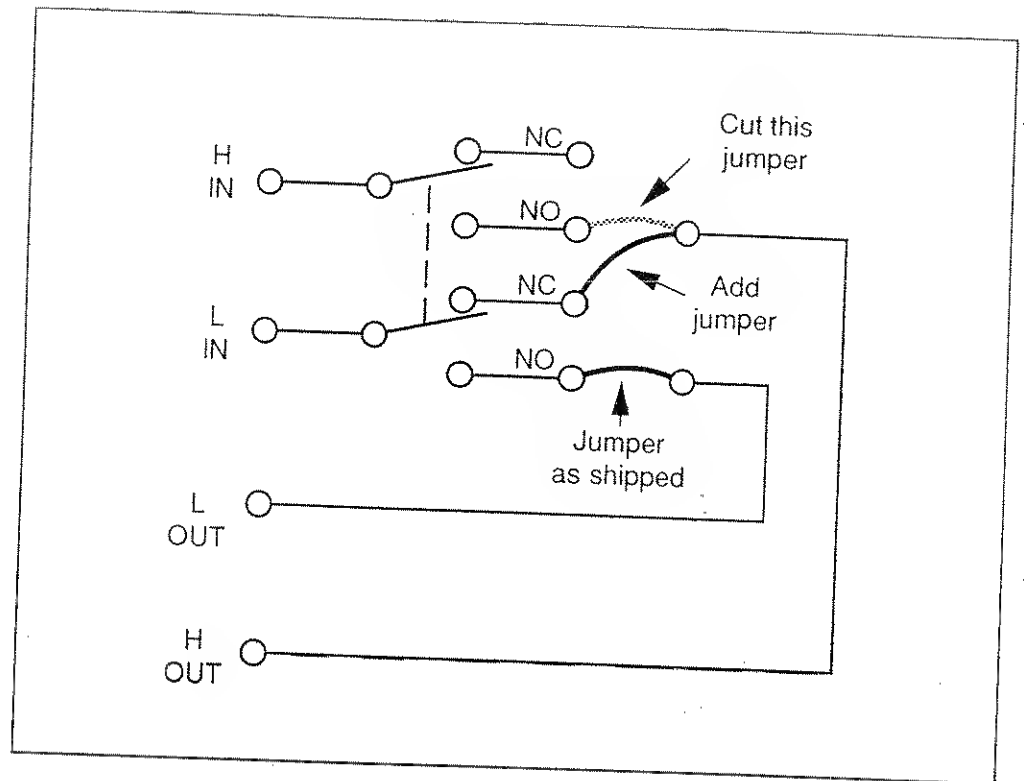

Figure 2-5. SPDT Configuration
**SPDT Configuration**—In this configuration, the relay switches a single-pole input from one load to another. Referring to Figure 2-5, wire the relay card as follows: